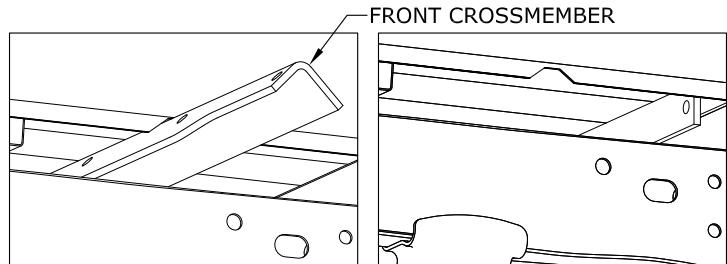
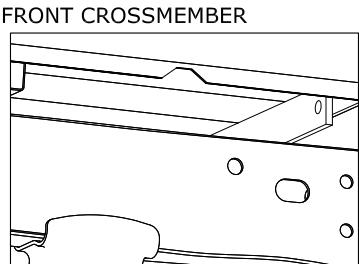
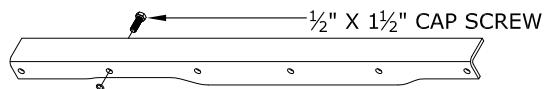

FIGURE B1: View above frame in passenger side wheel well
FIGURE B3: View above frame in passenger side wheel well.
FIGURE B2: Front Cross Member
1. **Place front cross member ( $\frac{5}{16}$  thick angle).** Using the notch cut in the bed flange inside the passenger side rear wheel well, slide the cross member across the frame until it spans both frame rails. The flange of the cross member with the holes must be toward the rear of the truck, see figure B1. Using the rubber o-ring provided, secure a  $\frac{1}{2}'' \times 1\frac{1}{2}''$  long bolt into the second hole in the cross member from the driver's side as shown in figure B2. Slide the cross member toward the cab so that it is approximately 6" in front of the 4" hole in the truck bed. Rotate the cross member so that the leg of the angle with the holes is vertical, see figure B3.